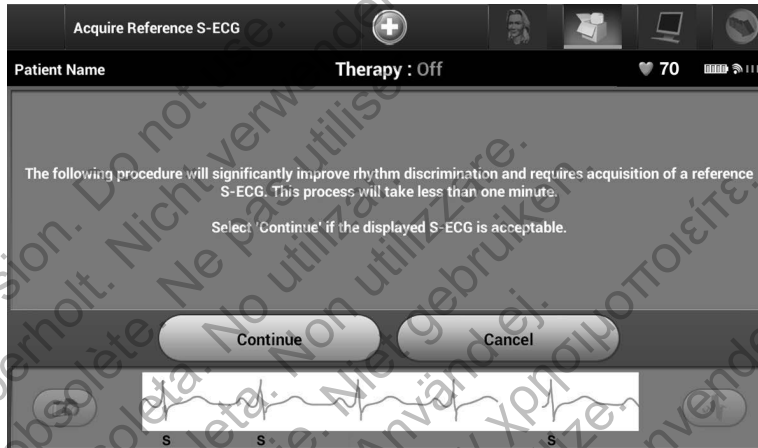

Figure 29: *Acquire Reference S-ECG screen*
8. Following the optional optimization process, the Acquire Reference S-ECG screen is displayed (Figure 29). Select the Continue button to acquire a reference S-ECG.